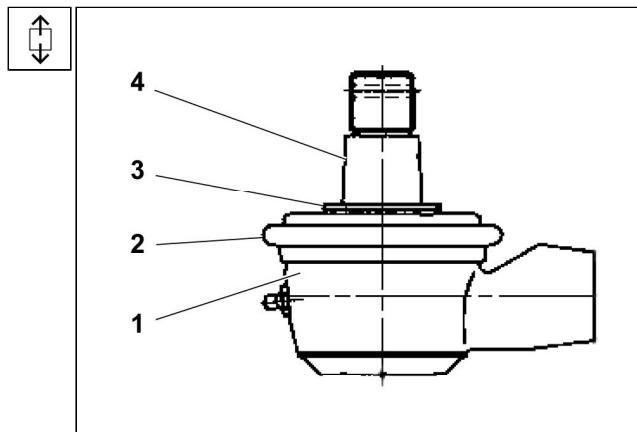

Fig. 10.55 Dust seal - removal
8. Add the measured values for the upper steering bearing housing **B** and for the steering bearing housing **C** and compare the sum with the measured value **A**. Use spacer washers **6** to take up the difference found out between both values **X**, i.e.  $B + C - A = X$  during installation (See Fig. 10.55) so that the bearing clearance would be 0.1 - 0.2 mm.
20. Install the assembled double steering arm (as per point 4 of the installation procedure) into the steering bearing housing **A** (See Fig. 10.55).